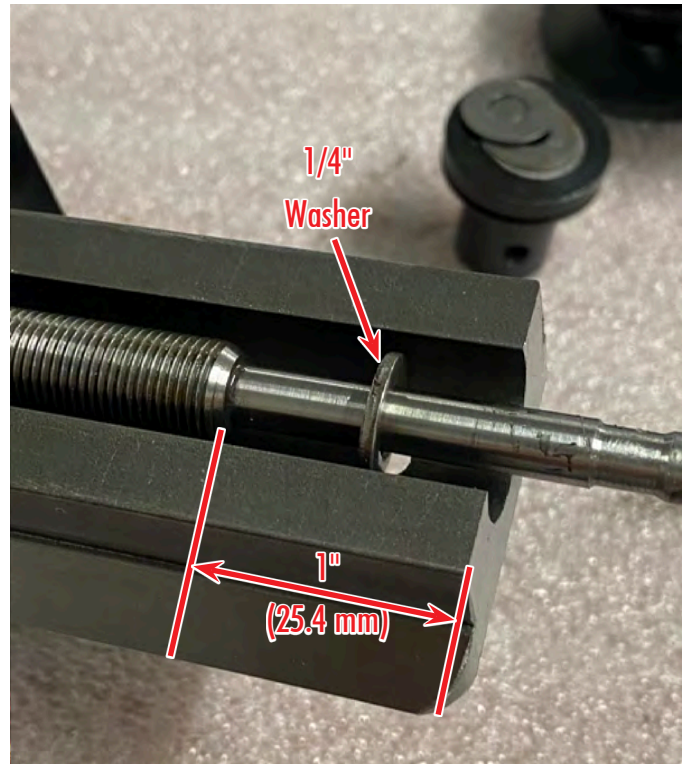

FIGURE 44
- Thread the leadscrew down until the threaded area at the shaft is about 1" (25 mm) below the end of the column bed. Place the 1/4" washer on the leadscrew shaft (see Figure 44).